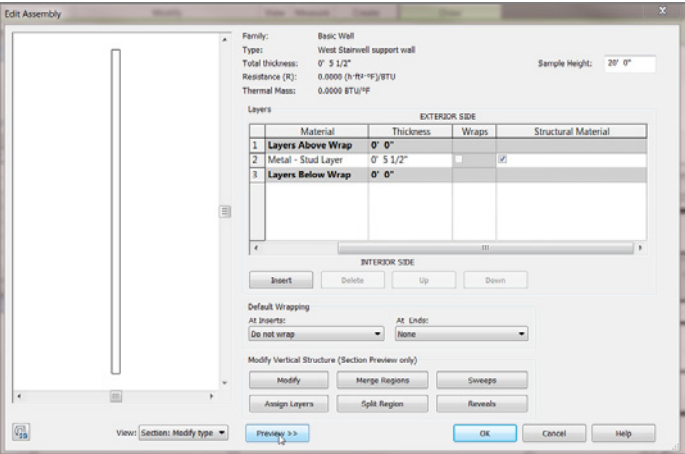

FIGURE 16.2: Changing the view to a section
12. At the bottom of the Edit Assembly dialog, click the Preview button (see Figure 16.2).